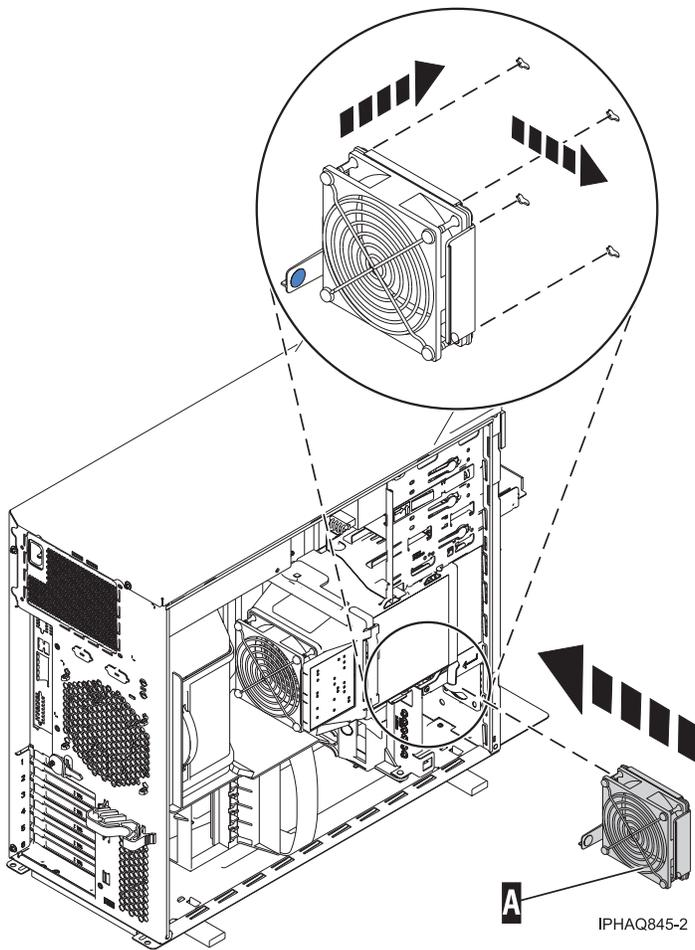

Figure 16. Installing the PCI adapter fan
3. Place the fan into the slot as shown in Figure 16 on page 16